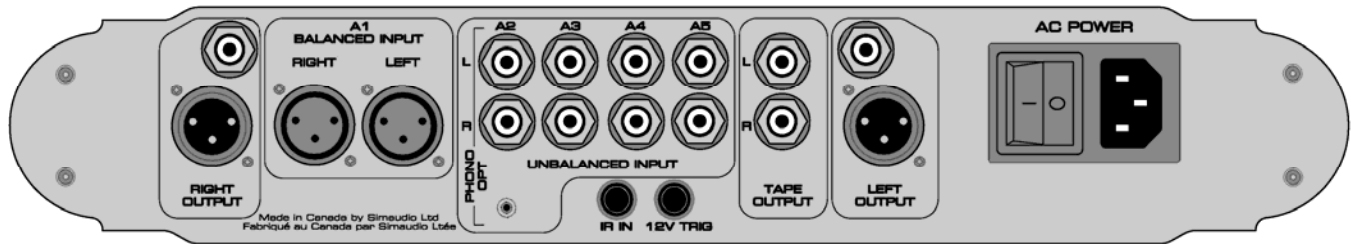

Figure 3: MOON P5.3 Rear panel
The rear panel will look similar to Figure 3 (above). There are four (4) pairs of single-ended inputs on RCA connectors labeled A2, A3, A4 and A5. The left channel inputs are located on top and the corresponding right channel inputs are located directly below. To the left of these single-ended inputs is one (1) pair of balanced inputs labeled A1.